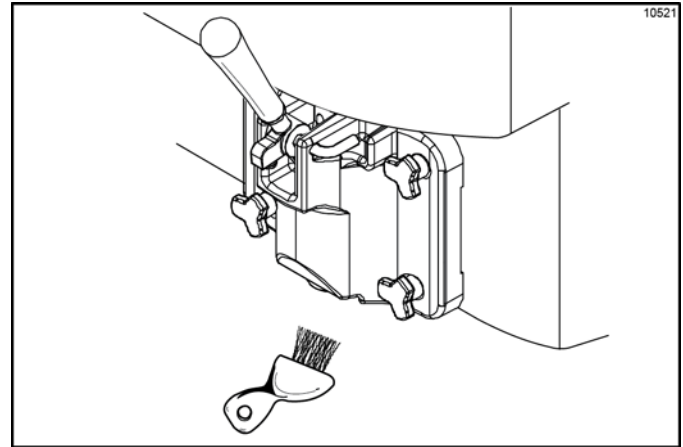

Figure 6-86
2. Return to the freezer with a small amount of sanitizing solution. Dip the door spout brush into the sanitizing solution and brush clean the door spout and bottom of the draw valve. (See Figure 6-86.)